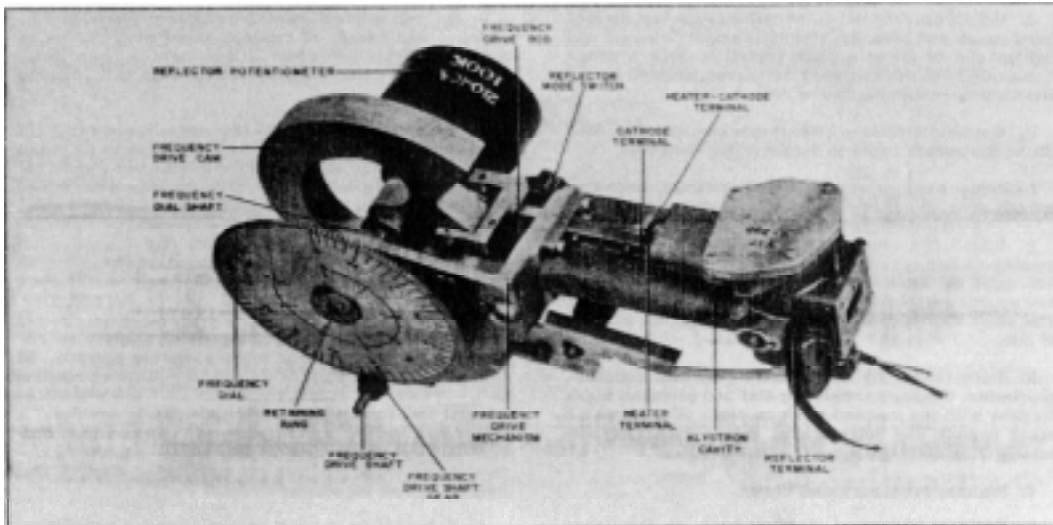

Figure 5-3. View of Klystron Cavity and Frequency Drive Mechanism
5-32. REMOVAL. Refer to Figure 5-3 and proceed as follows:
- 5-33. INSTALLATION. Refer to Figure 5-3, and proceed as follows:
5-34. ADJUSTMENTS. After replacing the klystron cavity the following adjustments are necessary. Refer to Figure 5-3 and proceed as follows:
5- 39. After replacing RT 1 the klystron heater voltage should be checked and adjusted if necessary. Refer to Fig 5-2, Fig 5-3, and proceed as follows: